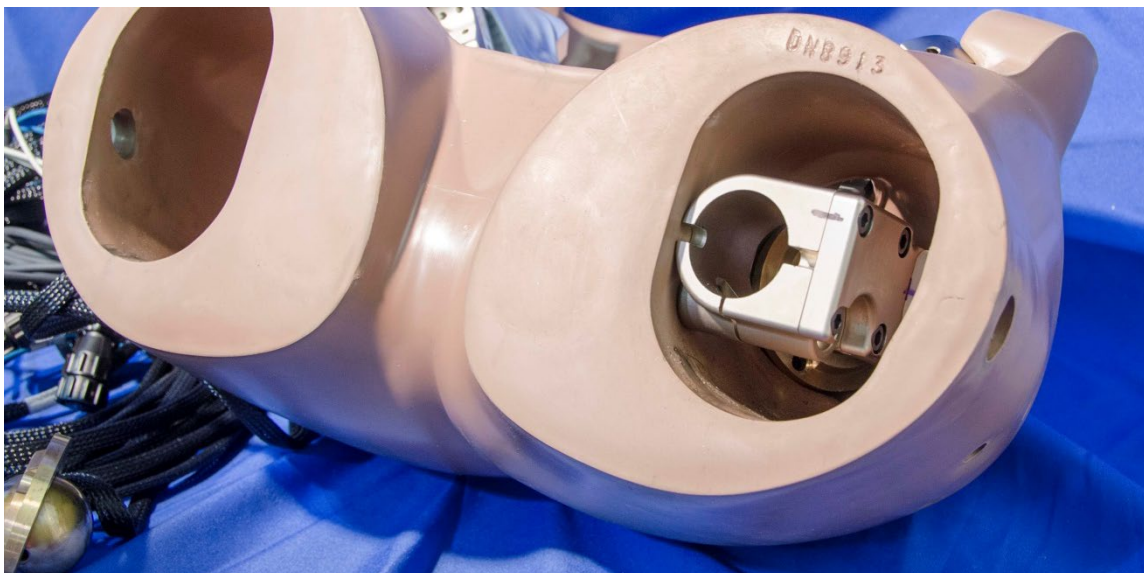

Figure 10-38. Insert femur ball joint assembly into pelvic flesh
- 10.2.2.25 Insert the Left Femur Ball Joint Assembly (472-4800-1) into the femur pelvic flesh (Figure 10-38).